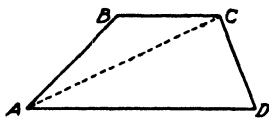

Fig. 29. Trapezoid.
A *trapezoid* is a quadrilateral having two sides parallel, Fig. 29. The parallel sides are called the *bases* and the perpendicular distance between the bases is called the *altitude*.
81. **Areas of Quadrilaterals.** Considering first the *trapezoid*, it will be seen that in Fig. 29 the dotted line AC (called a *diagonal*) divides the figure into two triangles, ABC and ACD , whose altitudes are the same, namely, the altitude of the trapezoid. By a previous rule the areas of these triangles will be respectively